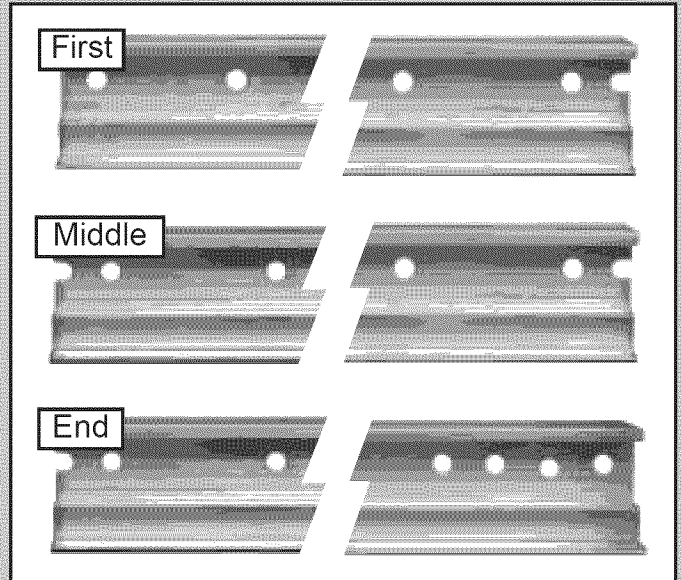

FIG. 1-1 Rail sections.
1. Identify the rail sections (Fig. 1-1).